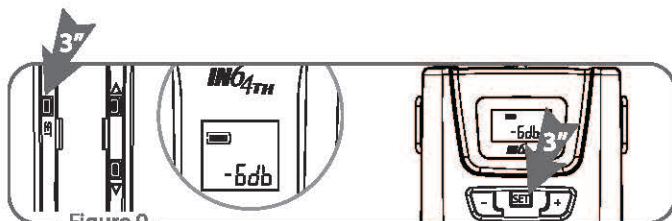

Figure 9
- (1) Press "Set" button ②⑨ for 3 seconds, the group (G) will flash. (Figure 9)
- (2) Press "▲Up" ②⑩ or "▼Down" ②⑪ button to select a desired group
- (3) Press "Set" again and the Channel (CH) will flash.
- (4) Press "▲Up" or "▼Down" button to select a desired channel.
- (5) After setting, press "Set" again to save the settings.